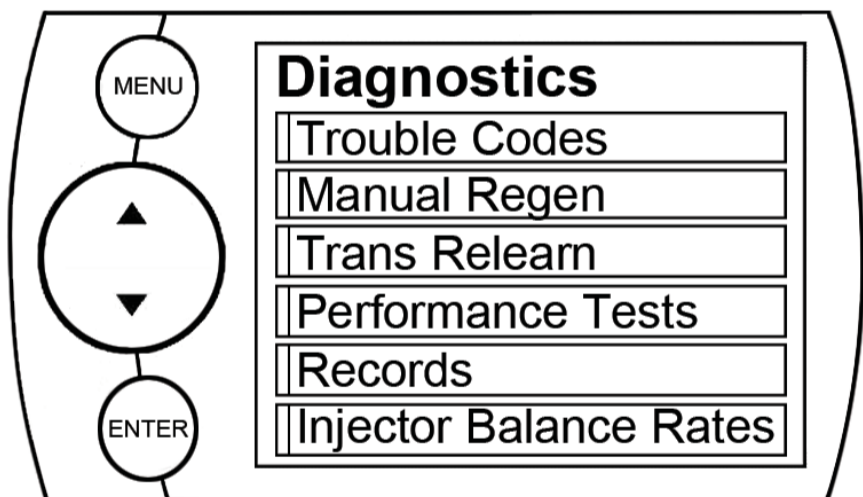

Figure 7
*NOTE: Not all options in Figure 7 will be available. The availability of these options will vary due to the product you purchased and your vehicle.*
1. Selecting the **Manual Regen** option in the **Diagnostics** menu. (Figure 7)